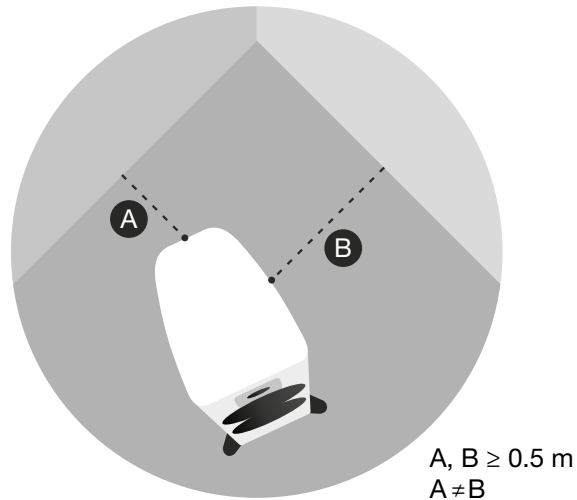

Fig. 4 - Distance to walls.
- ▶ To reduce possible influences from the back and sidewalls, the distance to these boundaries should ideally not be less than 0.5 meters (see Fig. 4).